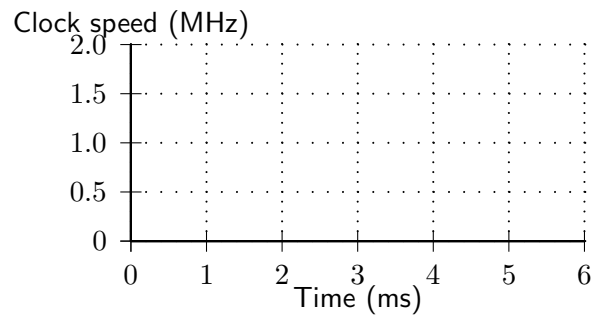

Abbildung 15: Schedule for Aufgabe 3.1 (d)
- (d) (5 Punkte) For the same task set, derive a feasible schedule which maximizes the remaining energy at the end of the schedule. Plot the schedule in the timeline provided. Plot also the energy left in the battery vs. time in the graph provided. Please use Figures 15 and 16.